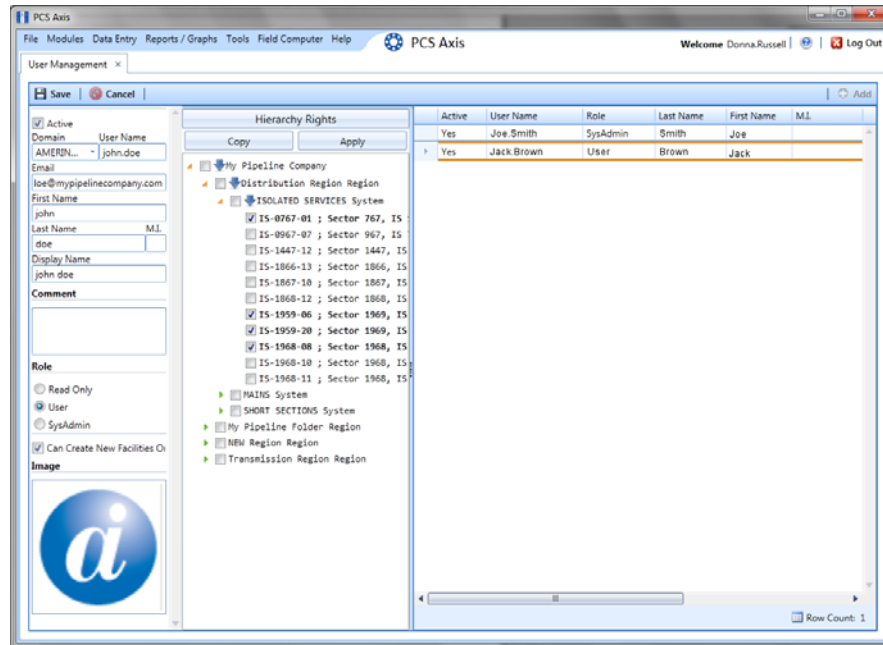

Figure 4-1. Adding a New User
- 1 Click **Tools > User Management > + Add** (Figure 4-1).
- 1 Click **Tools > User Management** (Figure 4-1).